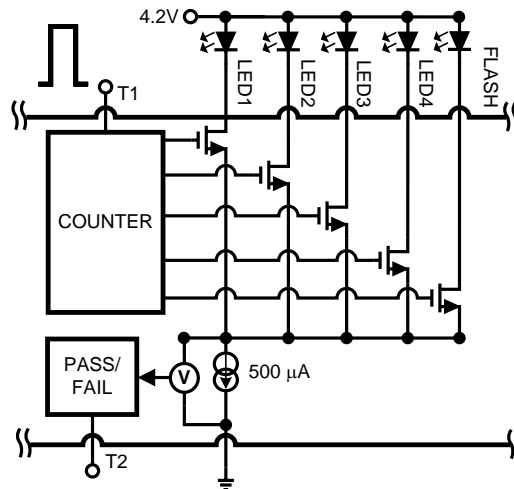
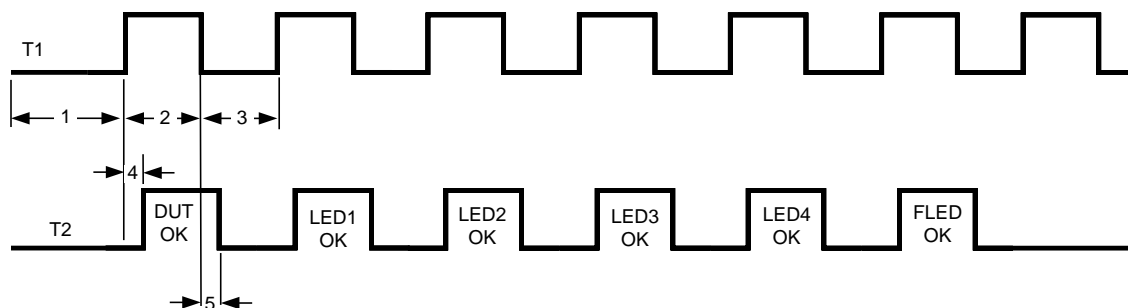

Figure 20. High Level Schematic Representation of the Test Interface
Figure 21. Test Interface Timing Diagram
- **Production test 1:** The LP5527 is assembled on a printed wiring board (PWB), but there is no LEDs connected on current sink outputs. An external 4.2V test voltage is supplied on the V_{DD1} and V_{DD2} pins, from which follows that the reset operating mode is entered with POR. Test pin T1 is pulled high. The chip will send an acknowledge "1" onto the T2 pin if the chip is in working order; otherwise T2 stays low (0). See Figure 21.
- **Production test 2:** The LP5527 is assembled on a PWB with the external components shown in LP5527 Block Diagram. 4.2V voltage is connected to V_{DD1} , V_{DD2} and FB pins (see Figure 20), from which follows that the reset operating mode is entered with POR. Test pin T1 is pulled high. The chip will send an acknowledge "1" onto the T2 pin if the chip is in working order; otherwise T2 stays low (0). If the ACK is "1", a repetitive test pattern "0-1-0-1-0-1-0-1-0-1-0-1" is applied to T1 pin and if the LED corresponding the pattern (see Figure 21) is connected properly T2 gives "1", otherwise T2 stays low. The last "1" disengages the test.